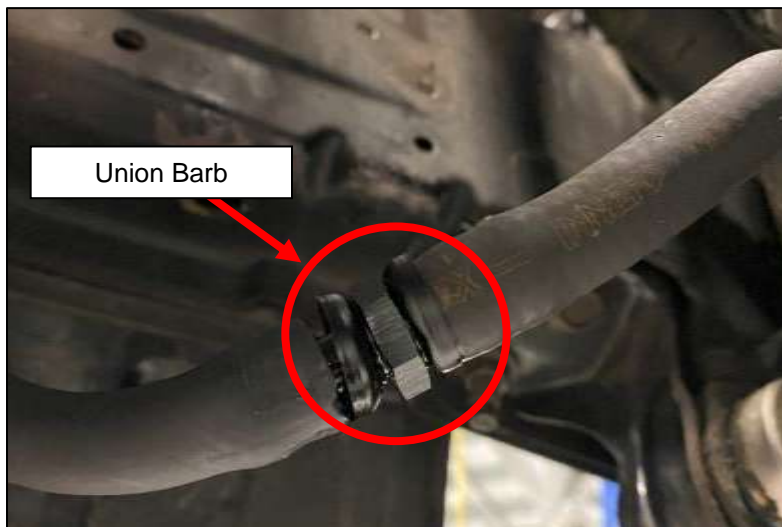

Figure 24
15. Using the Remainder of the Power Steering Hose, connect the outlet of the Power Steering Cooler to the Union Barb (#38), and connect the OE Power Steering Line to the other end of the Union Barb. Run the Line through the opening in the lower left of the Core Support that was enlarged in *Step 6*, and secure with the supplied Hose Clamps. *Figure 24*.